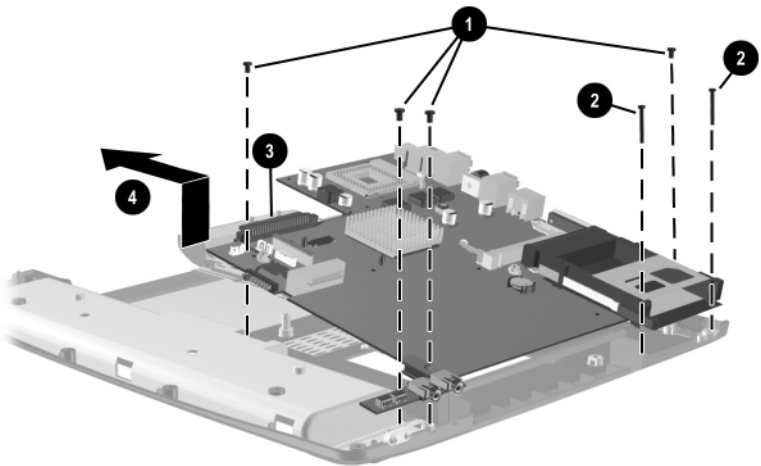

Figure 5-28. Removing the System Board
3. Remove the four PM2.5 × 4.0 screws ❶ that secure the system board to the base enclosure (Figure 5-28).
4. Remove the two PM2.0 × 13.0 screws ❷ on each side of the PC Card assembly that secure the system board to the base enclosure.
5. Use the hard drive connector ❸ to lift the left side of the system board until it rests at an angle.
6. Slide the system board to the left at an angle ❹ and remove it from the base enclosure.